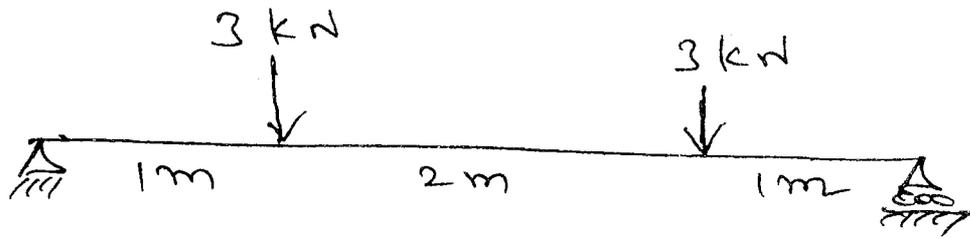

Fig. Q 15 (a)
15. (a) Find the deflection at C and D by conjugate beam method for the beam shown in Fig. Q 15 (a). $EI = 2 \times 10^{13} \text{ N mm}^2$